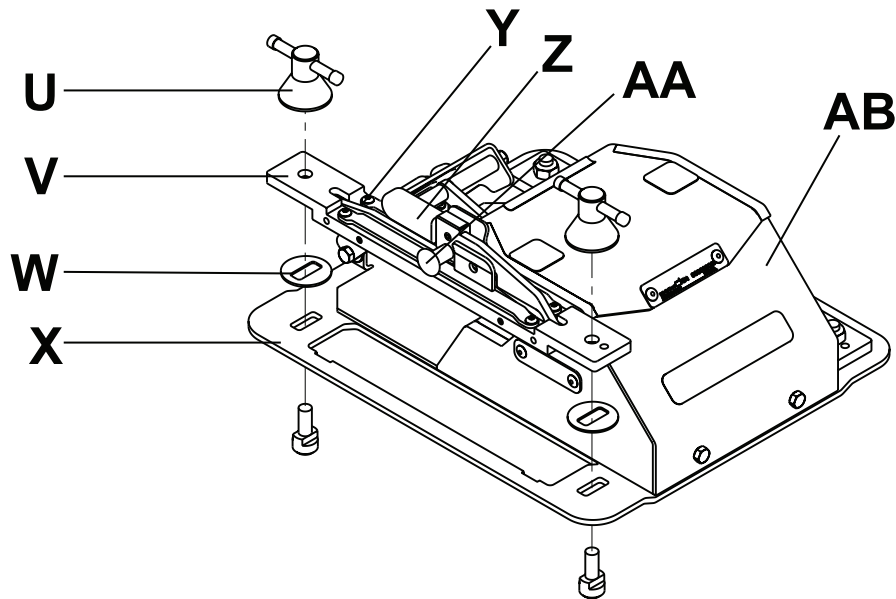

Figure 9 – Assemble the foot end fastener
1. Position the four supplied lock down washers (6388-001-080) (W) between the track mounted fastener (NMI adaptor) (V) and the foot end fastener lock down base plate (X) (Figure 9).
2. Loosely tighten the wing nuts (U) to attach the track mounted fastener (NMI adaptor) (V) to the foot end fastener lock down base plate (X) (Figure 9).
5. Unlock the track mounted fastener (NMI adaptor) (V) of the foot end fastener (AB) by pulling the pin (AA) to unlock (Figure 9).
6. Pull the handle (Z) and then the wedge (Y) up to open (Figure 9).
7. Align the foot end fastener (AB) in the floor track (Figure 9).
8. Lock the track mounted fastener (NMI adaptor) (V) to the floor track by folding the wedge (Y) and then the handle (Z) down to close (Figure 9).
9. Tighten the wing nuts to securely attach the track mounted fastener (NMI adaptor) (V) to the foot end fastener lock down base (X) (Figure 9).